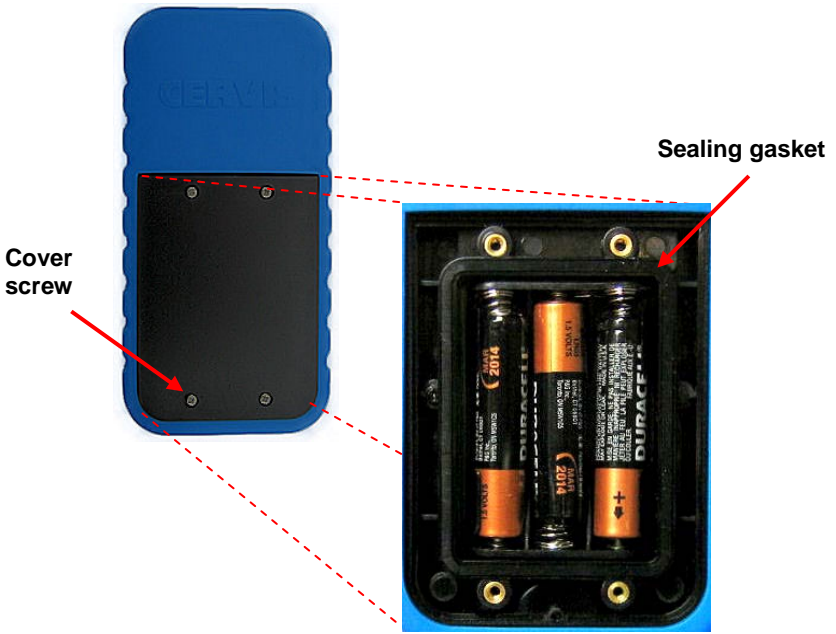

Figure 4. Handheld Battery Installation
2. If installing batteries in an empty battery compartment, install three fresh size AAA batteries. Be sure to position the batteries as shown in Figure 4 below.
If replacing expired batteries, remove the old batteries and install three fresh size AAA batteries. Be sure to position the batteries as shown in Figure 4 below.